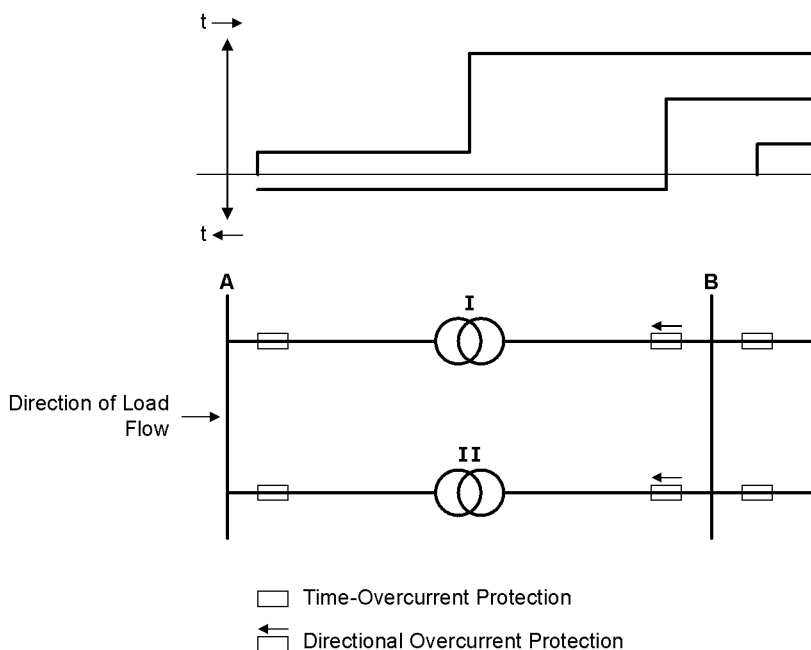

Figure 2-22 Overcurrent protection for parallel transformers
For parallel lines or transformers supplied from a single source (Figure 2-22), the second feeder (II) is opened on occurrence of a fault in the first feeder (I) if tripping of the breaker in the parallel feeder is not prevented by a directional measuring element (at B). Therefore, where indicated with an arrow (Figure 2-22), directional overcurrent protection is applied. Please ensure that the "forward" direction of the protection element is in the direction of the line (or object to be protected). This is not necessarily identical with the direction of the normal load flow, as shown in Figure 2-22.